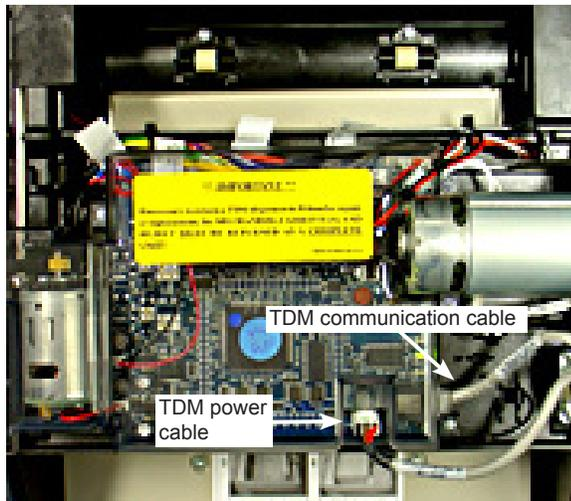

Figure 24. The TDM dispenser communication and power cable connections
- Refer to Figures 24. Connect the DC power and communication cables to the TDM dispenser..